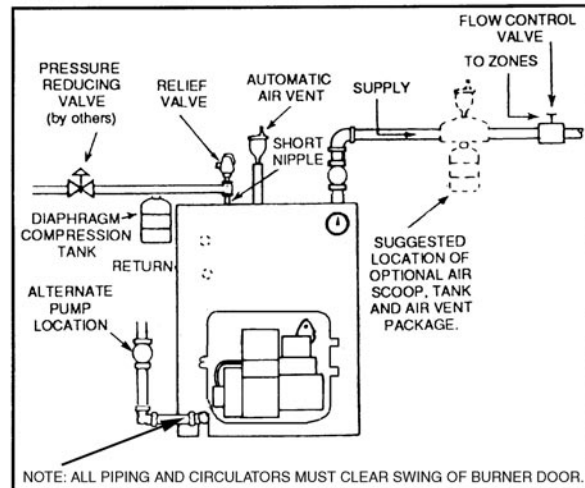
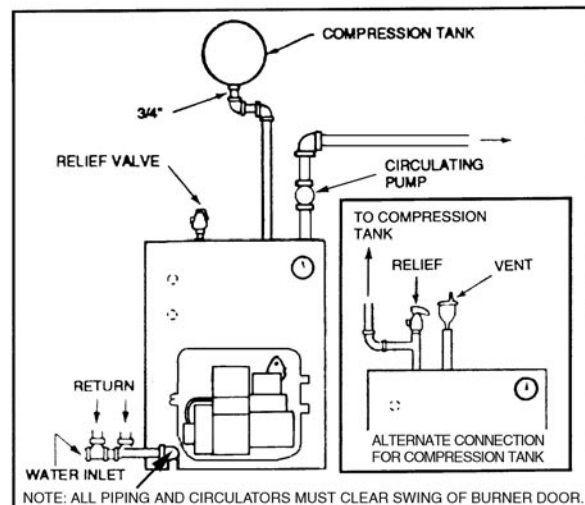

Figure 6. Air Eliminating System
Figure 7. Air Collecting System
- B. A **FLOW CONTROL VALVE** (See figure 6) will prevent gravity circulation and usually is required when tankless heater is installed.
- A. **DIAPHRAGM-TYPE COMPRESSION TANKS** are used to control system pressure in an **AIR ELIMINATING SYSTEM**: an automatic air vent is used to REMOVE air from the system water. See figure 6. If system pressure needs further control, add an additional tank or install a larger capacity tank. The automatic air vent should be installed in the top of the boiler, as in figure 6.
- B. **CONVENTIONAL COMPRESSION TANKS** (non-diaphragm type) are used to control system pressure in an **AIR COLLECTING SYSTEM**. Within the system, after initial start-up and venting, air is collected in the tank and acts in contact with the water to control pressure. Air is not vented from this system. If system pressure needs further control, add another tank in parallel with the original tank or install a large capacity tank. Locate the tank at the inlet end of the pump near the boiler. (See figure 7)
- D. **PUMP LOCATION**-Locating low-head pump(s) on return to boiler is only acceptable in residences of one or two stories. (See figure 6) The pump location shown in figure 7 is required in large, multi-story building installations, especially when high-head pumps are used and is also recommended for all applications.
- E. A conventional compression tank may be connected to the 3/4" tapping as shown in figure 7.
**IMPORTANT:** Hot water heating systems containing high water volume, such as would occur with cast-iron radiation, require special care with air elimination. The circulator pump should be located on the boiler supply pipe and the expansion tank and air scoop should be located near the pump suction. (See Figure 6, Alternate Pump Location.)